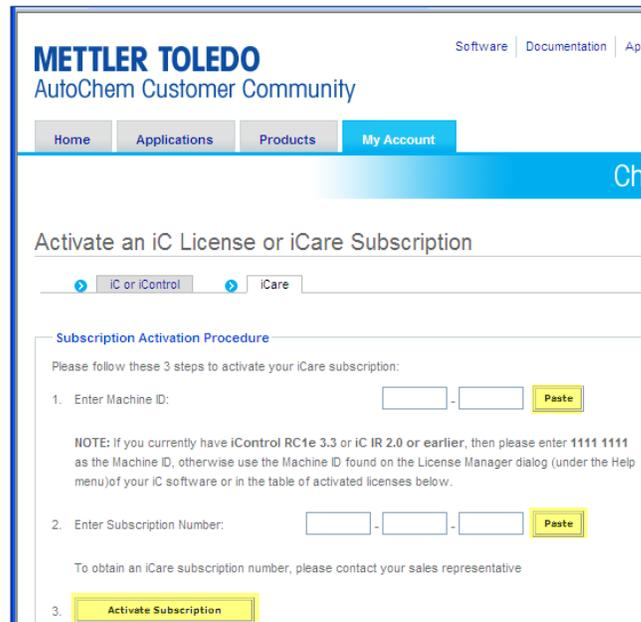

Figure 4: Activate an iCare Subscription window
3. In the iCare activation window (**Figure 4**), enter the Machine ID as directed in the Note, or use the **Paste** button (highlighted below). The Machine ID can be copied from the License Manager window.